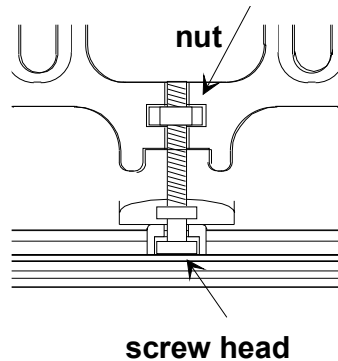

Figure 9: Mounting the terminal closure guide (1)
2. Insert the nut and the special screw in the corresponding niche on the guide (see Figure 9).